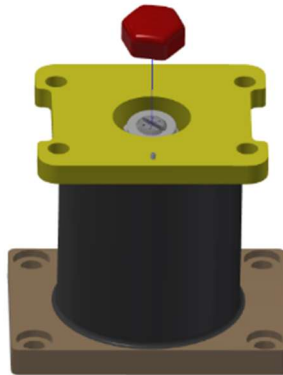
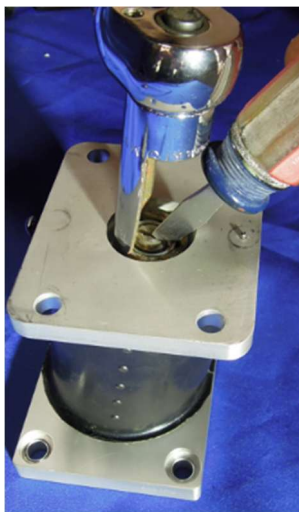

Figure 6-27. Remove the red cap
Figure 6-28. Remove the modified M12 Hex Lock Nut (474-3228) with a flat head screwdriver and a modified socket
- 6.2.16 In order to disassemble the Lumbar Assembly (474-3223-A), remove the red cap (Figure 6-27). Remove the modified M12 Hex Lock Nut (474-3228) with a flat head screwdriver and a modified socket (Figure 6-28).